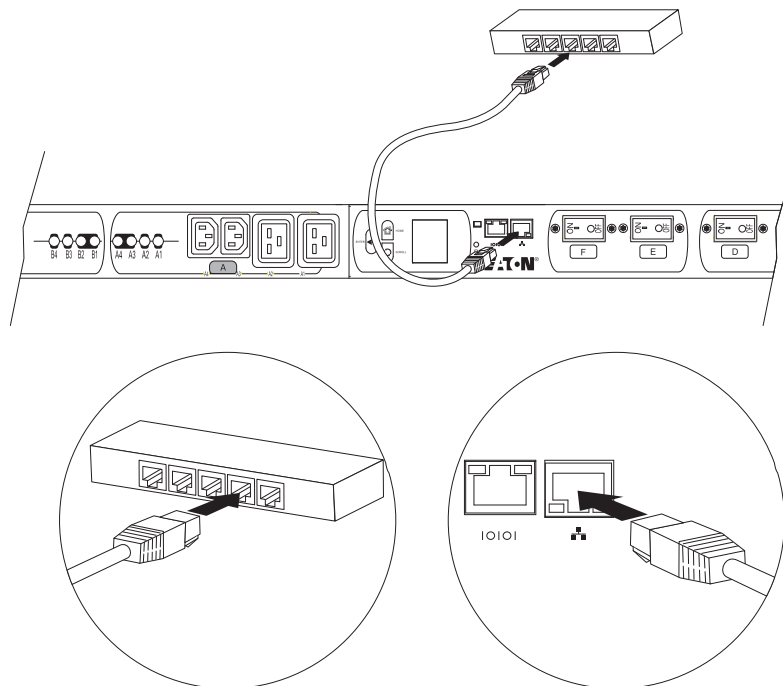

Figure 17. Connecting the ePDU to a LAN
2. Connect one end of the cable to the Ethernet connector on the ePDU. Connect the other end of the cable to the Ethernet connector on the router (or other LAN device). See Figure 17.